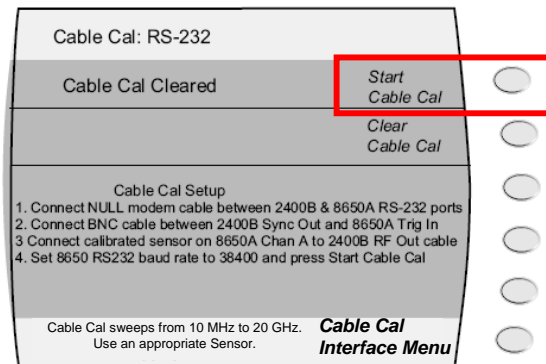

Figure 11
- Press “Start Cable Cal” softkey to begin the swept frequency characterization. See figure 11.